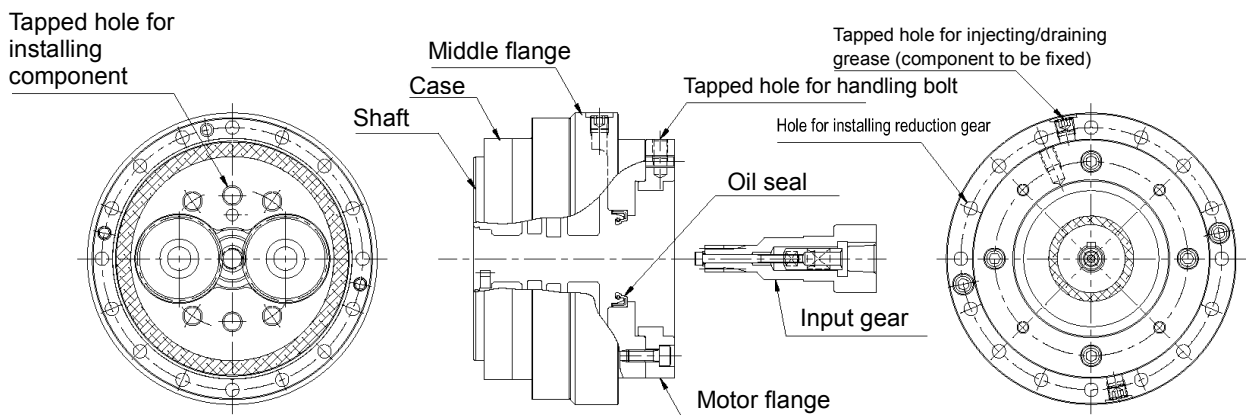

Fig. 2-6
- For type F (Fig. 2-6), which is structured in such a way that the lubricant cannot be sealed inside, prepare the shaft installation component that has been designed and manufactured based on the separately provided “Outer dimensions” drawings, specification sheet, and catalogs for the N and E series.